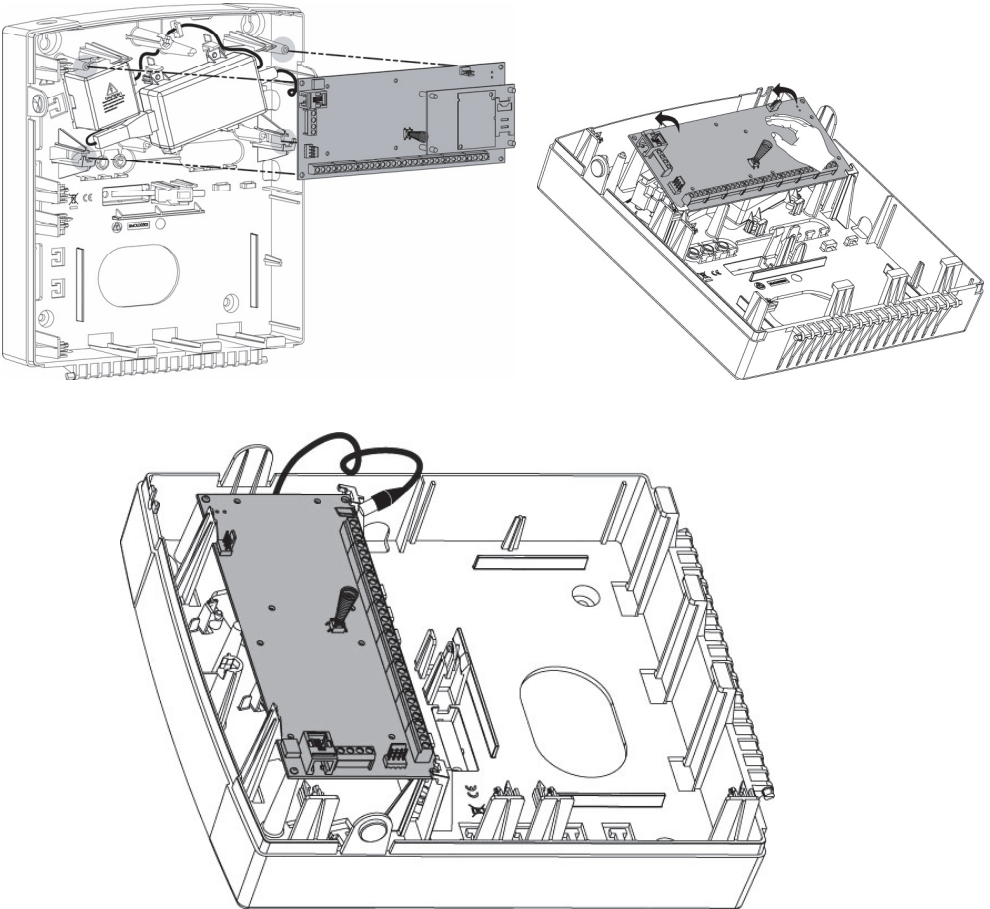

Figure 2-4 Placing the main panel PCB
2. Place the main panel PCB on its four mounting standoffs and secure it, as per Figure 2-4